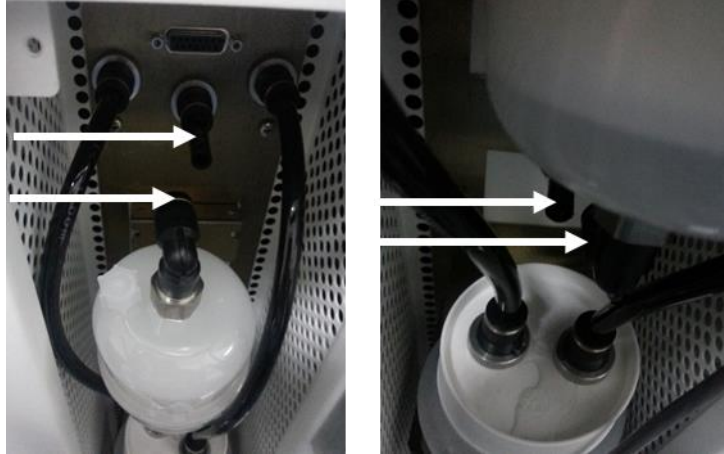

Figure 9-12: Upper (Left) and Lower (Right) Filter Quick Connectors
4. Holding the Capsule Filter with one hand, loosen the Filter by pressing the upper Black Quick Connector and pulling the Filter out of the Water Hose (Figure 9-12 left).
5. Holding the Capsule Filter with one hand, loosen the filter by pressing the lower black quick Connector and pulling the filter out of the water hose (Figure 9-12 right).
2. Push the lower System Water Hose into lower Filter's Quick Black Connector as much as possible (Figure 9-12 right).
3. Push the upper System Water Hose into upper Filter's Quick Black Connector as much as possible (Figure 9-12 left).